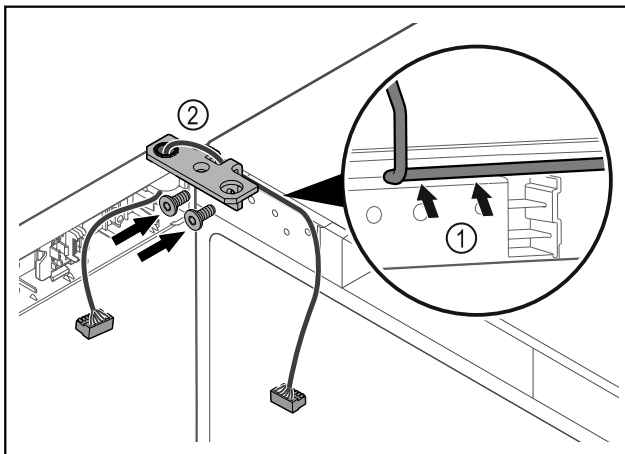

Fig. 43
- ▶ Feed the cable through the recess in the hinge and lay it carefully Fig. 43 (1).
- ▶ Screw on the hinge Fig. 43 (2).